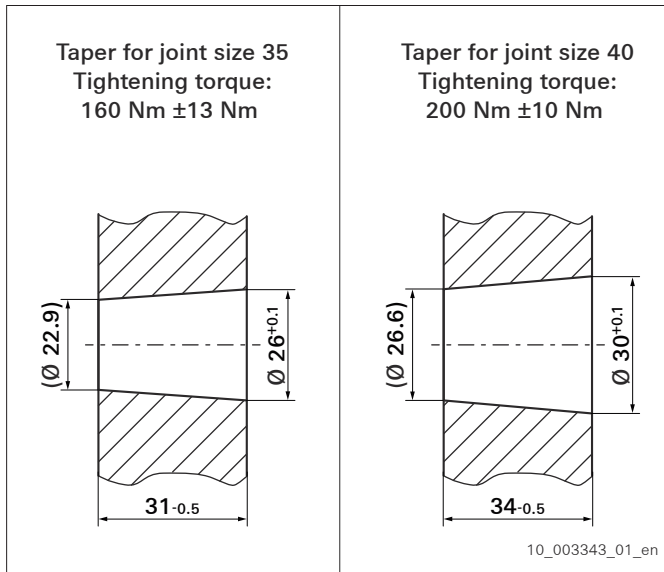

Fig. 24 Stabilizer bar connection
- Comply with the specified tightening torques for the corresponding joint sizes (*refer to fig. 24, page 33*).